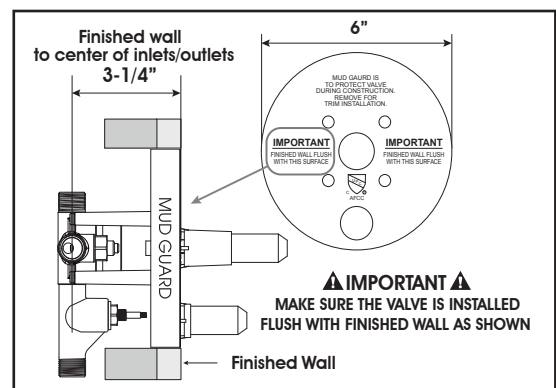

FIG. 1
2. The depth of rough-in should account for thickness of wall materials to be used, combining thickness of wall board and finished wall materials. It is **CRITICAL TO PLACE MUD GUARD FLUSH WITH FINISHED WALL.** FIG. 1